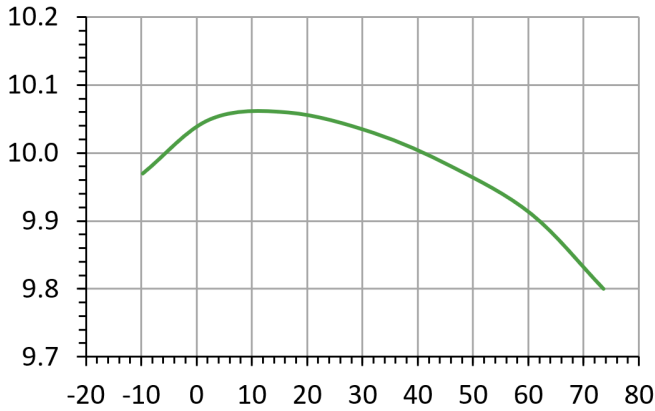
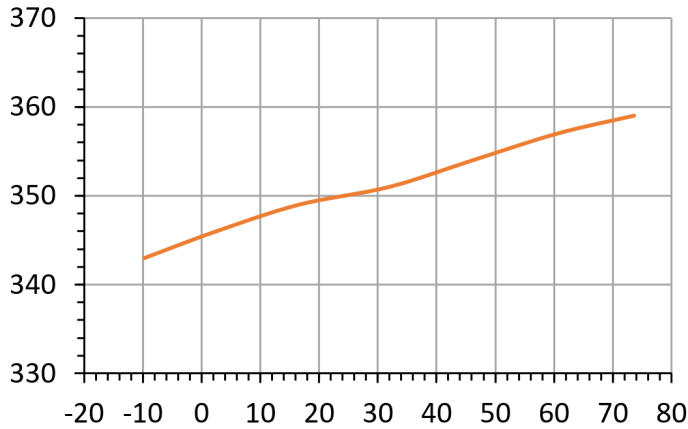

Fig. 19: Output Amplitude (Vpp) vs Temp (°C) at 2.5Gb/s
Fig. 21: Positive Supply Current (mA) vs Temp (°C); Vin = 0.25Vpp
- Amplitude is calibrated at 2.5 Gbps with a 0.25 Vpp PRBS7 input pattern and 50% mark space density. Amplitude is measured between 45% and 55% unit interval (10% Eye Aperture) using a LeCroy SDA 100G sampling oscilloscope, SE-50 sampler, and Anritsu 41KC-20 attenuator. No cables are inserted between the amplifier output, the attenuator, and the sampler. Amplitude accuracy is guaranteed at 40°C case temperature. See Figure 19 for typical temperature variation.
The data presented in Figures 19 and 20 were obtained using a LeCroy SDA 100G Sampling Oscilloscope with 50 GHz (SE-50) remote sampling module. The data presented in Figures 21 and 22 were obtained using a Fluke 87 Multimeter.